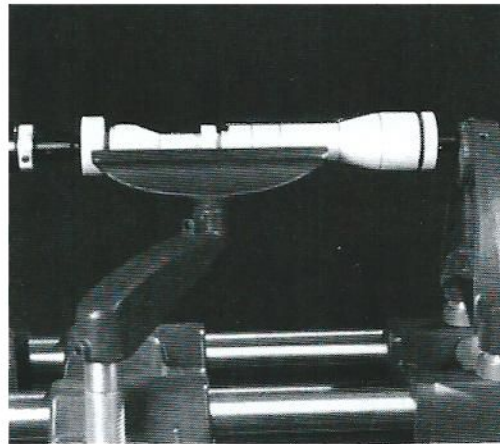

Fig. 1. The boiler and the smoke-stack can both be turned at the same time from one piece of stock.
Turn the boiler (A) and smoke-stack (M), a simple process when both are turned at the same time from one piece of stock (see Fig. 1). To form the turning blank, glue up three pieces of $3/4"$ stock and clamp securely overnight. When the glue is dry, turn the two parts according to the plans, then sand them. With a parting tool, cut the parts and set aside.